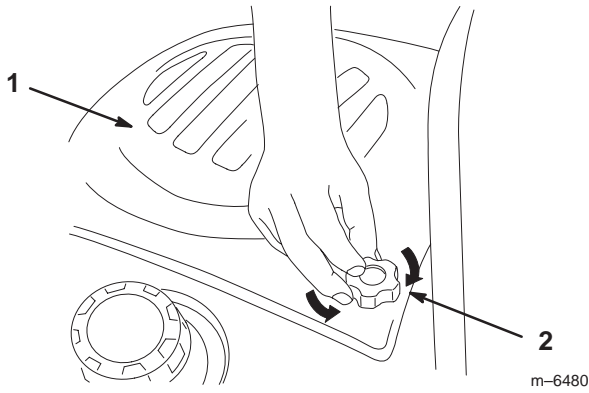

Figure 15
1. To remove the hood, loosen the knobs and then pull the hood back and up (Fig. 15).
3. Tighten the knobs (Fig. 15).